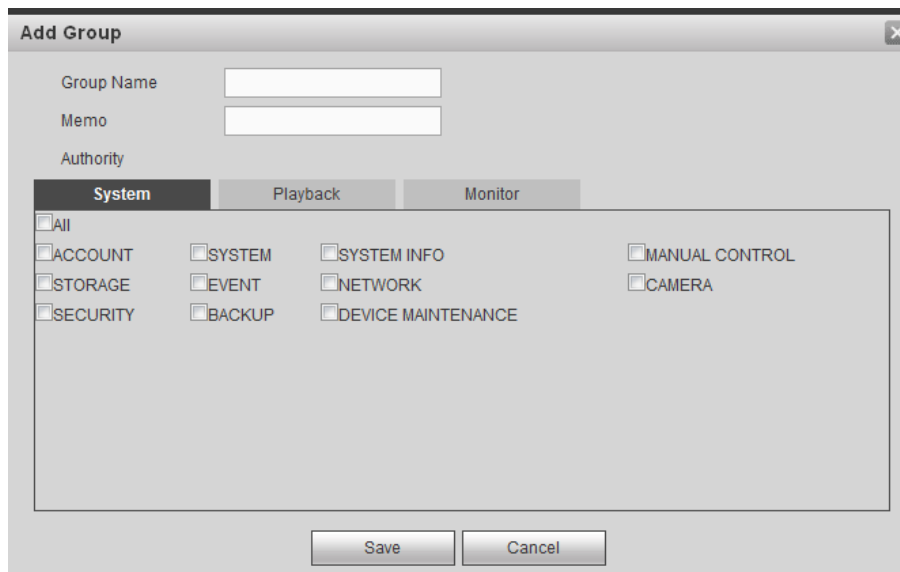

Figure 4-123
Step 1 Click Add group button. Enter add group interface. See Figure 4-123.